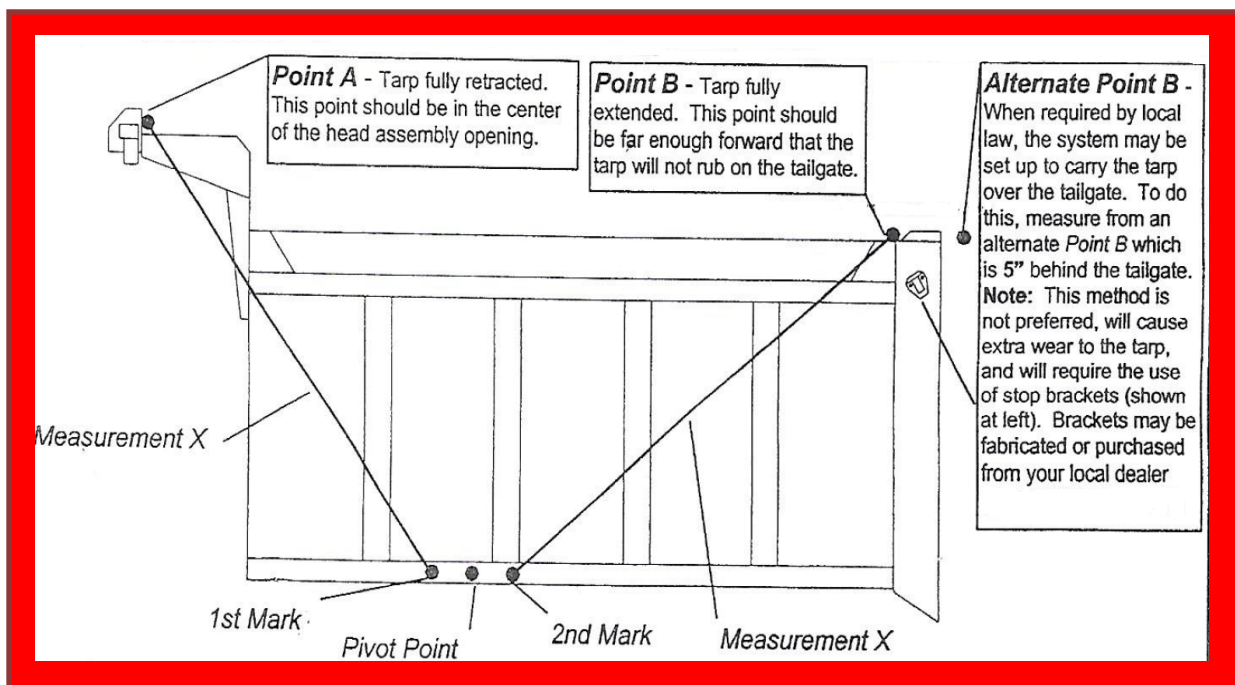

FIGURE 1
1. Measure from Point A (see Figure 1) to a point on the side rail of the box that is close to where the pivot should be mounted. Mark this point and note the distance as Measurement X.
2. Using Measurement X from the previous step, measure from Point B and make a 2nd Mark on the side rail. NOTE: If Measurement X is large enough, the 1st and 2nd Mark may be reversed relative to Figure 1. This will not affect the Pivot Point Location.
2. Slide one of the upper pivot arms into a lower arm. Adjust the arm length until the corner rests on the desired landing point at the back of the box (Point B/Figure 1 from the Pivot Installation Instructions.) If the upper arm is too long, cut both upper arms to allow at least 2 feet of upper pivot arm sticking into the lower pivot arm.
5. Measure the distance between the upper arms as in Figure 1. Cut the end of the rear cross piece that does not already have the holes 2" shorter than the distance measured. Using the pre-drilled bolt holes in the 90 degree bend castings as a template, mark the rear cross piece for drilling. Drill two 3/8" holes in the rear cross piece at these markings such that when the casting is inserted into the rear cross piece the holes will align to allow bolting.